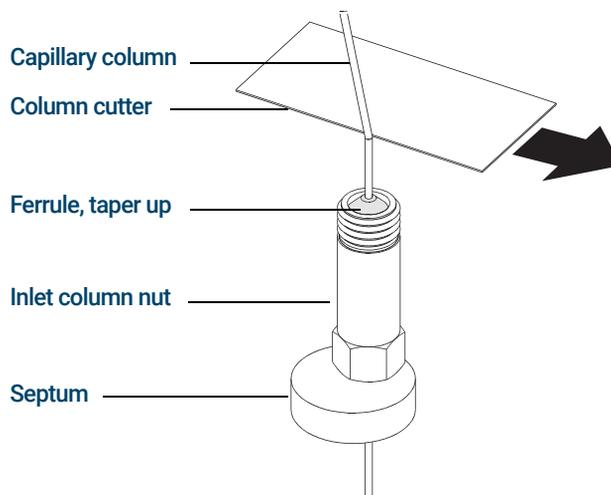

Figure 3. Preparing a capillary column for installation
- 2 Wearing clean gloves, press the column through the septum (this takes a bit of pressure). Then slide the column nut and conditioned ferrule onto the free end of the column. (See Figure 3.) The tapered end of the ferrule should point away from the column nut.